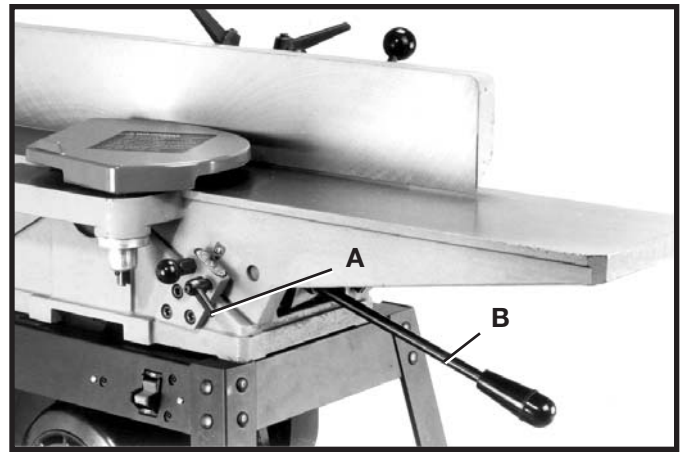

Fig. 35
1. To raise or lower the infeed table, loosen table lockhandle (A) Fig. 35, move the table raising and lowering handle (B) up or down until the table is at the desired position and tighten table lockhandle (A).